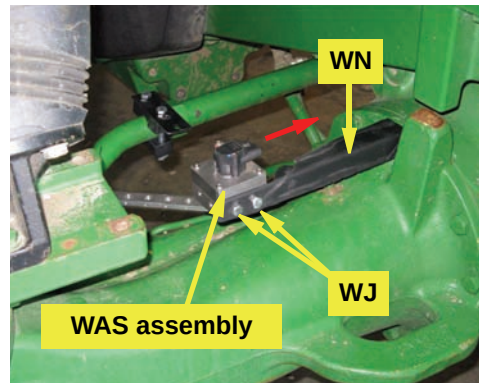

Figure 2c: Installed WAS assembly
- c. Using hardware **WJ**, attach the WAS assembly to the bracket **WN**. Make sure the WAS connector is pointing inwards (Figure 2c).